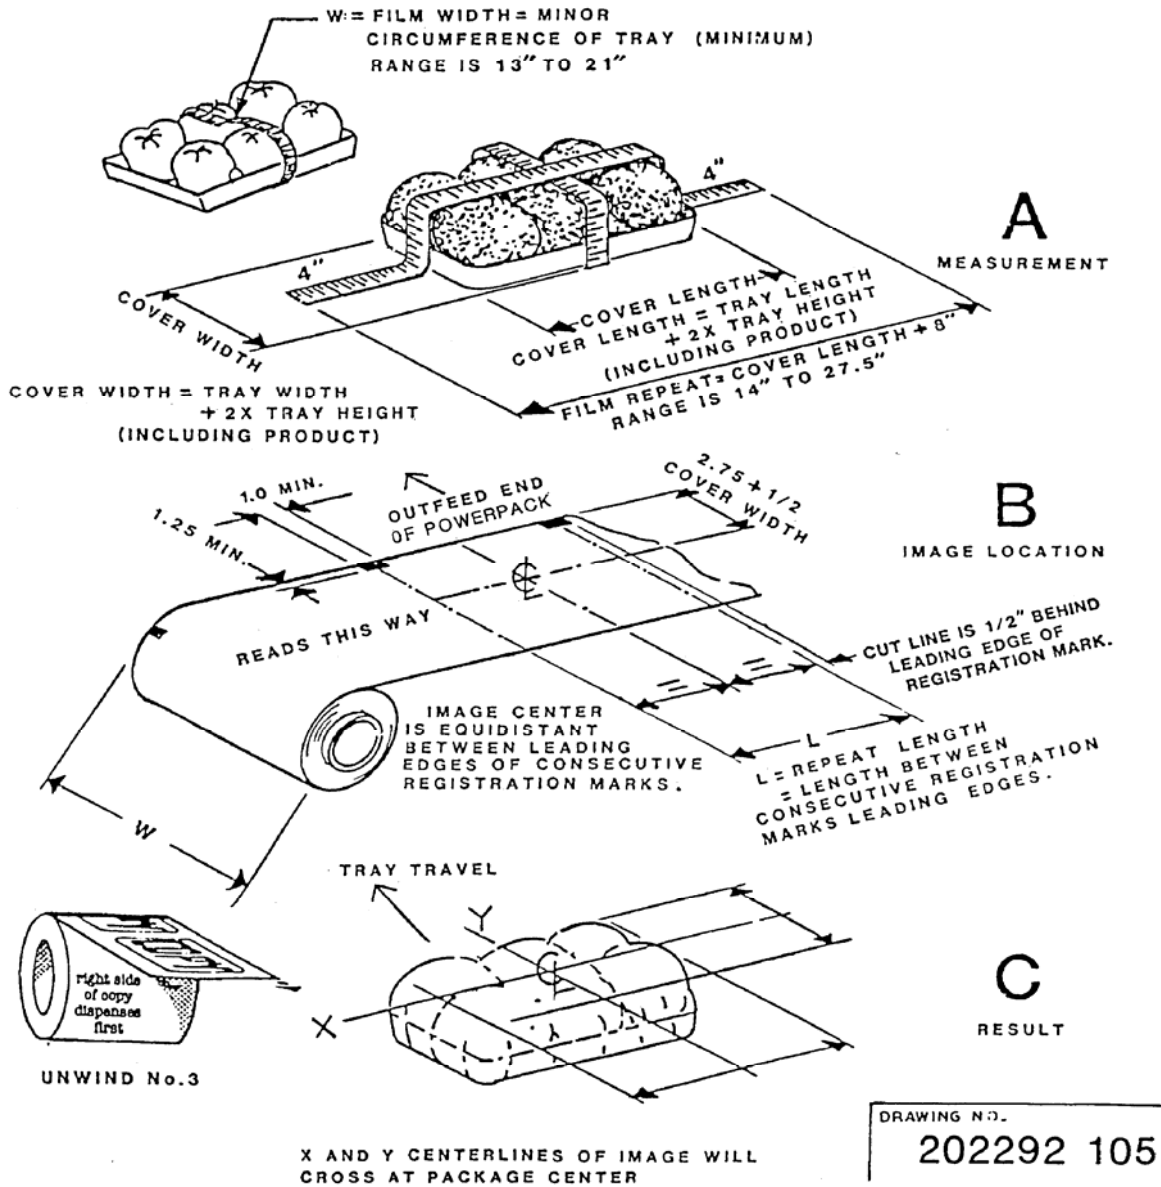

Figure 7-1 Printed Registered Film Specifications
To determine the Film Width – Refer to Figure 7-1 :
The vertical centerline of the printed image must be positioned 2.75 inches + 1/2 of the cover width from the rear edge of the film. The cover width is equal to the tray width plus twice the height of the tray, including product, as measured in "A" shown in Figure 7-1.
To determine the film length required, measure tray cover length, which is equal to the tray length plus twice the height, including product, as shown in "A" in Figure 7-1. Film repeat length, or pitch, is equal to cover length + 8" for a typical tray. For the Number 8 tray, (8"W x 10"L), the typical repeat length would be approximately $10 + 2 + 2 + 8 = 22$ ".
The horizontal image centerline must be 1/2" offset from the center of the leading edges of the registration marks, as shown in "B and "C" in Figure 7-1.
- Film image is erect and reads correctly from left to right when viewed from machine infeed. See "B" in Figure 7-1.